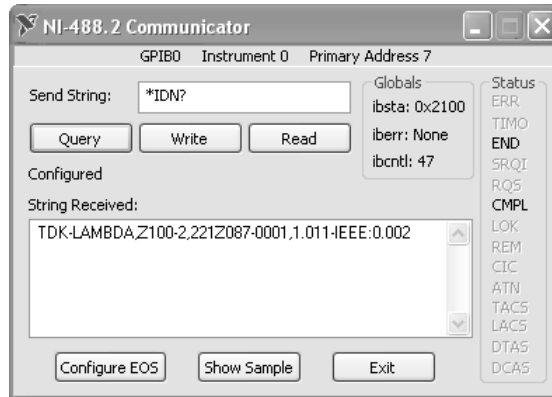

Fig.5-3: ID String Query
- Click Communicate with Instrument in the GPIB Explorer toolbar. NI-488.2 Communicator appears. Refer to Fig. 5-3
- In the Send String box, *IDN? appears. Click Query. The ID string indicates the model, serial number, firmware version and the GPIB card firmware version. This will be shown in the text box below String Received. Refer to Fig.5-3.